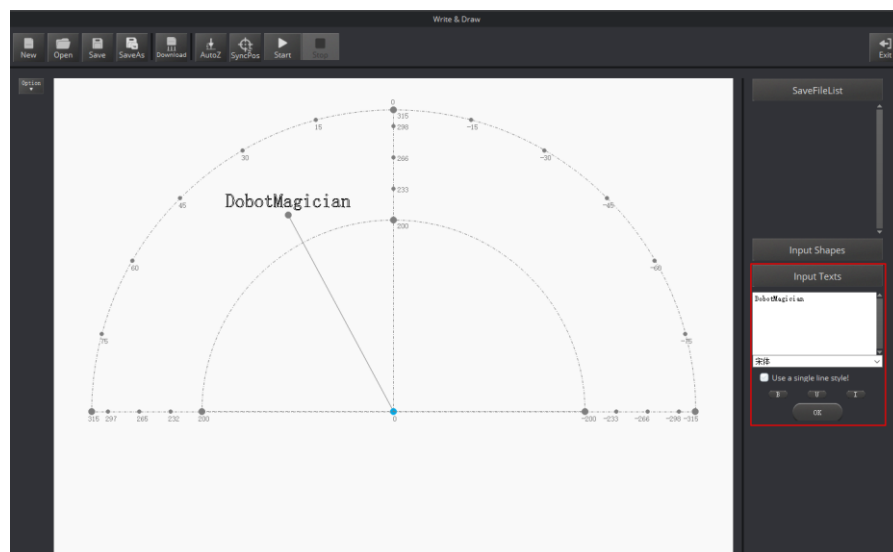

Figure 5.49 Input text
- Click **Input Texts** on the **Write & Draw** page to input texts, and set its style, and then click **OK** to display the text on the annular area, as shown in Figure 5.49.